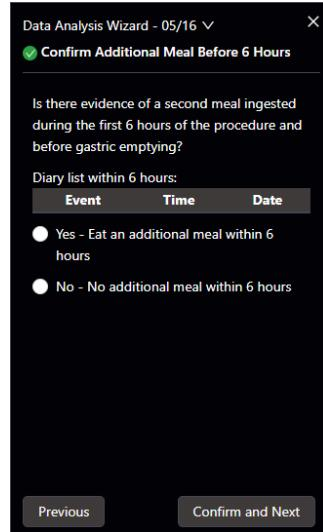

Figure 4-29 Data Analysis – Confirm Additional Meal Before 6 Hours
6) Confirm Additional Meal Before 6 Hours (Figure 4-29). Check the diary to confirm whether the patient had any additional meals besides the standard meal within 6 hours after the start of the test, and select based on actual conditions. After selection, click [Confirm and Next] to proceed.